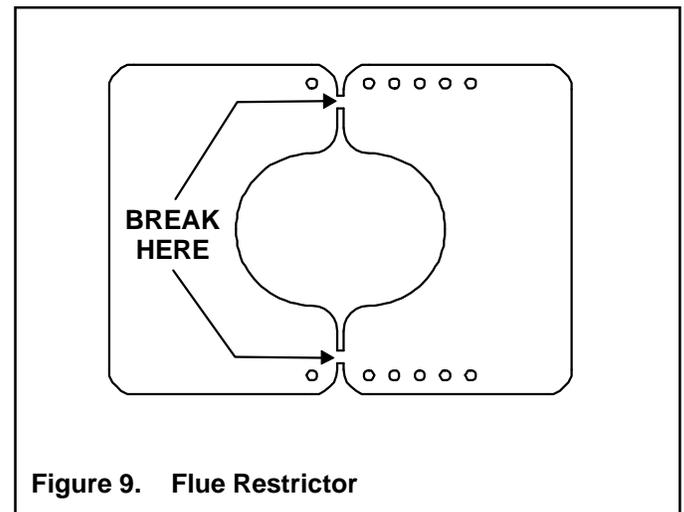

Figure 9. Flue Restrictor
2. Break the Flue Restrictor into two pieces. Do this by bending the part back and forth until it breaks (see Figure 9).